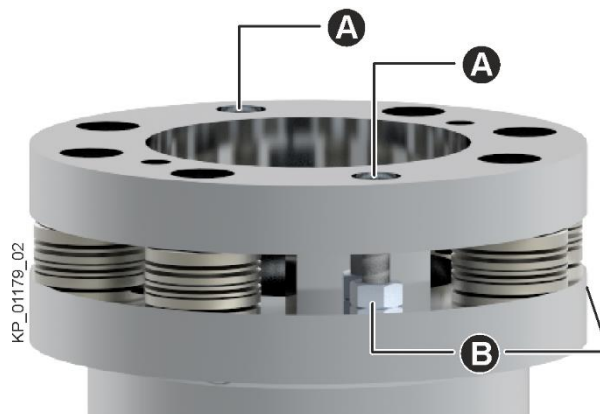

Fig. 56: Setting the spring travel
- Loosen the lock nuts (Fig. 56/B) of the socket head cap screws (Fig. 56/A).
- Set the socket head cap screws (Fig. 56/A) to uniform height and secure them with lock nuts (Fig. 56/B).